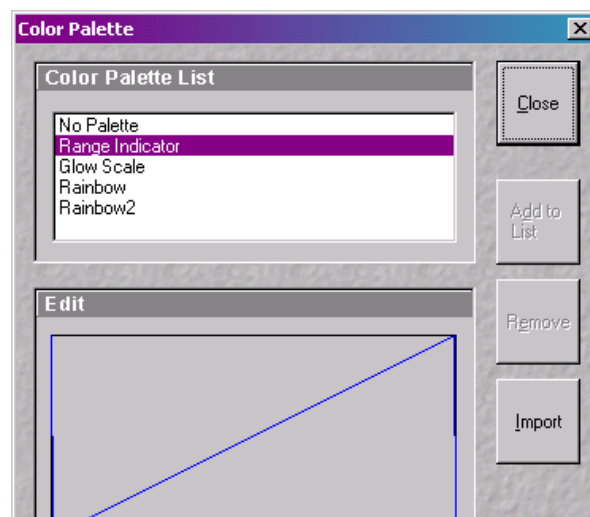

Fig. 19 Color Palette window
- In the **Color Palette List** panel, click on the **Range Indicator** item (Fig. 19).